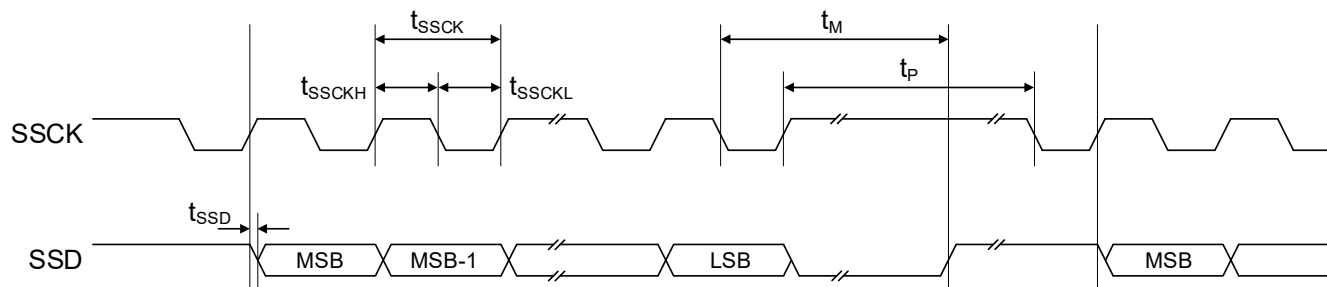

Figure 33: SSI Mode A
- In Mode A, SSCK is held high when communication is idle (Figure 33)